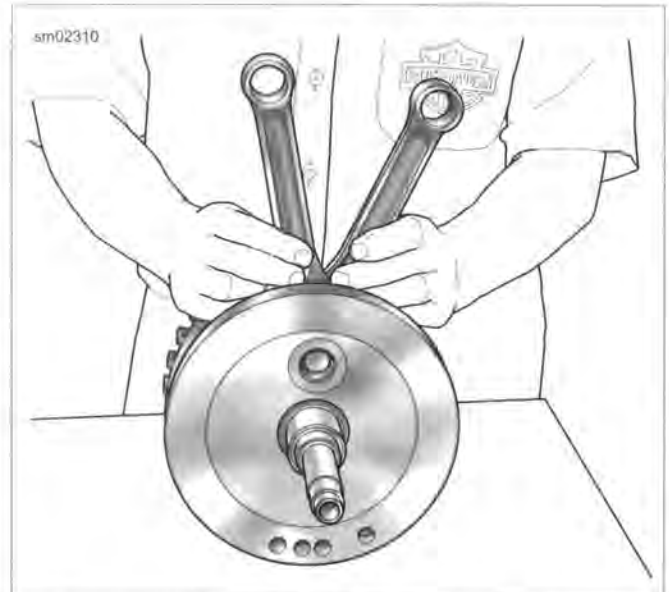

Figure 3-128. Connecting Rod Bearing Clearance
2. Check connecting rod bearing clearance. Place the assembly as shown in Figure 3-128.